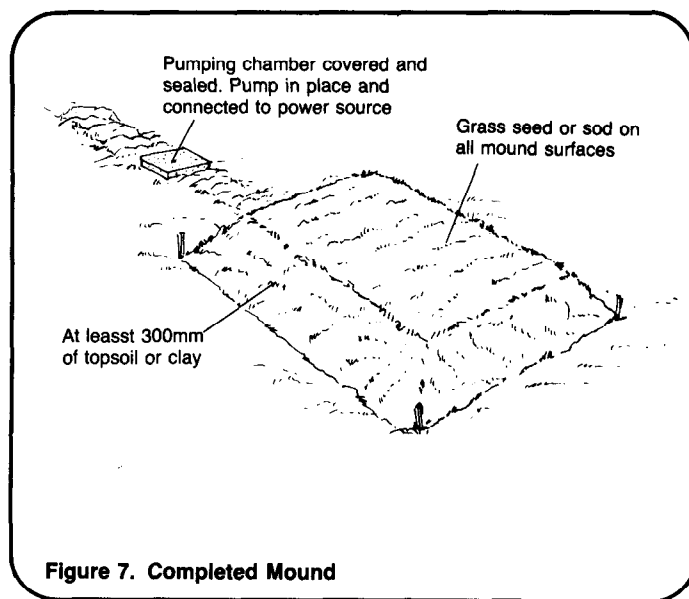

Figure 7. Completed Mound
5. Completing the System. Install the pump in the pumping chamber and connect the 50mm diameter pipe leading to the mound. Connect the pump to its power source. Seal the pumping chamber and cover the pipe. Cover the entire mound with at least 300mm of topsoil or clay. Plant grass seed or lay sod on the mound. See Figure 7.